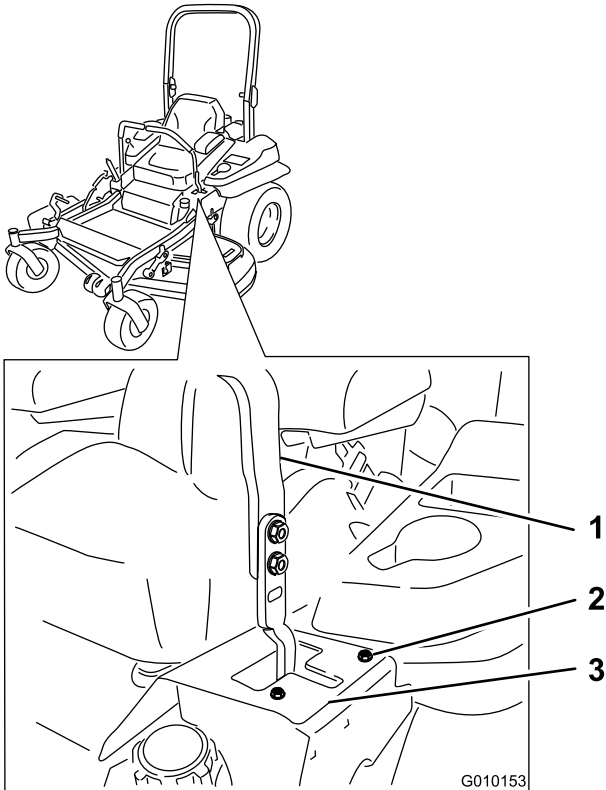

Figure 64
- If the machine tracks to the right, loosen the bolts and adjust the left stop plate rearward on the left T-slot until the machine tracks straight (Figure 64).
- If the machine tracks to the left, loosen the bolts and adjust the right stop plate rearward on the right T-slot until the machine tracks straight (Figure 64).
8. Tighten the stop plate (Figure 64).